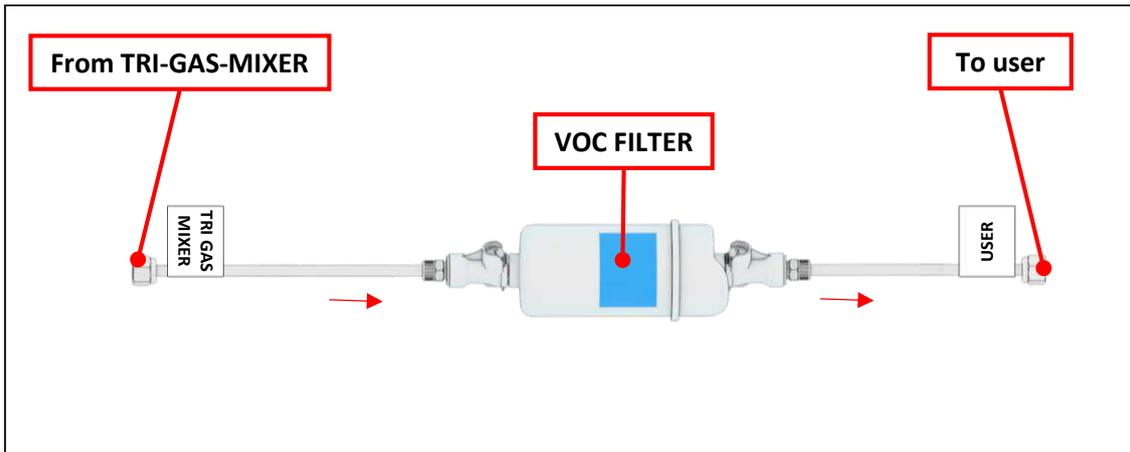

Figure 19 VOC filter installation.
7. If your system is equipped also with VOC Filter, install the tube **TUBE-BV** supplied between the Pressure Gauge downstream of the Tri-Gas-Mixer and the users’ line as shown in Figure 19. In order to install the VOC Filter in the correct orientation, follow the gas flow direction indicated on the filter itself.